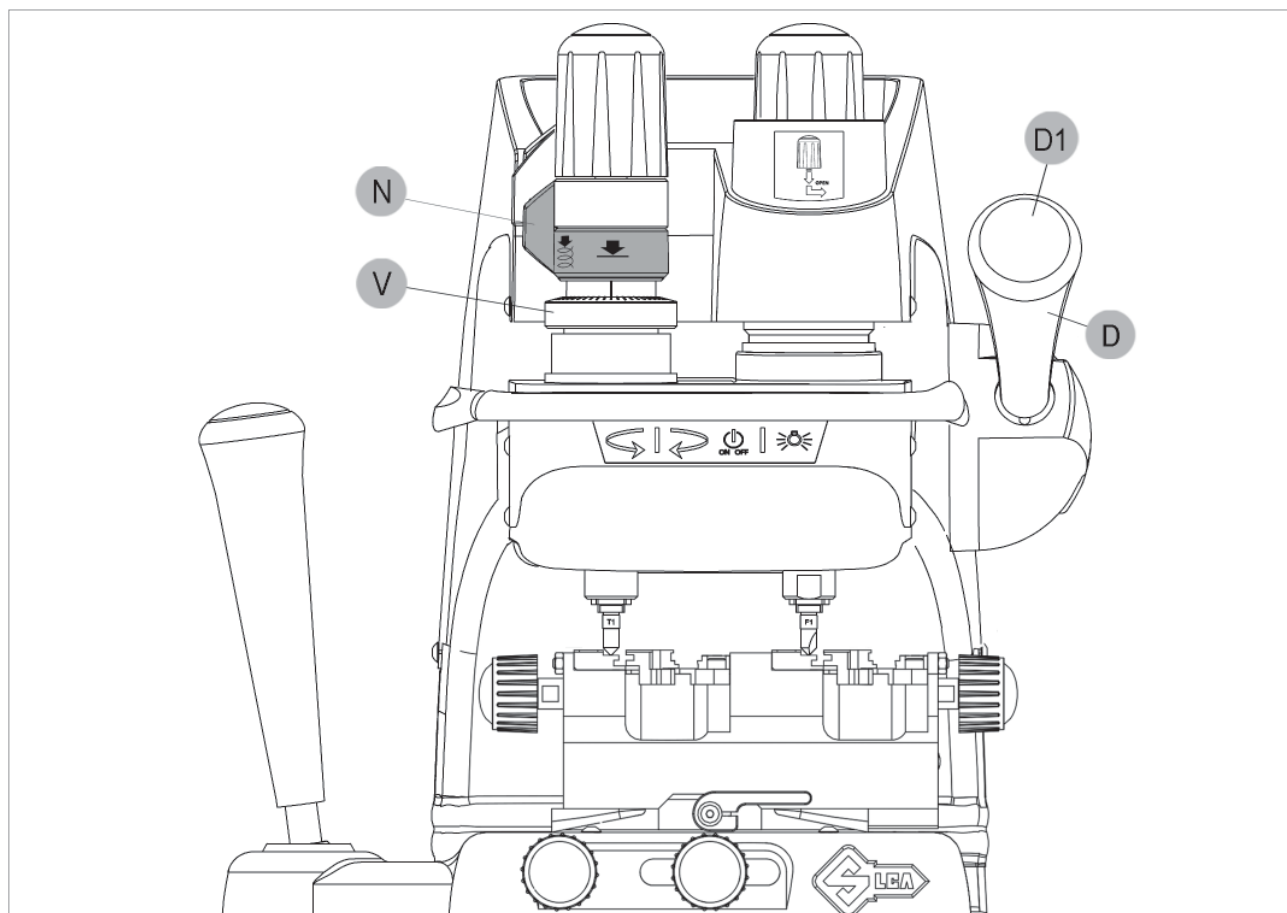

Fig. 22
- 5) Press the lever (D) release button (D1), lower the vertical carriage and take the tools into contact with the clamp surface (seat of the key)(Fig. 22) There are three possibilities: